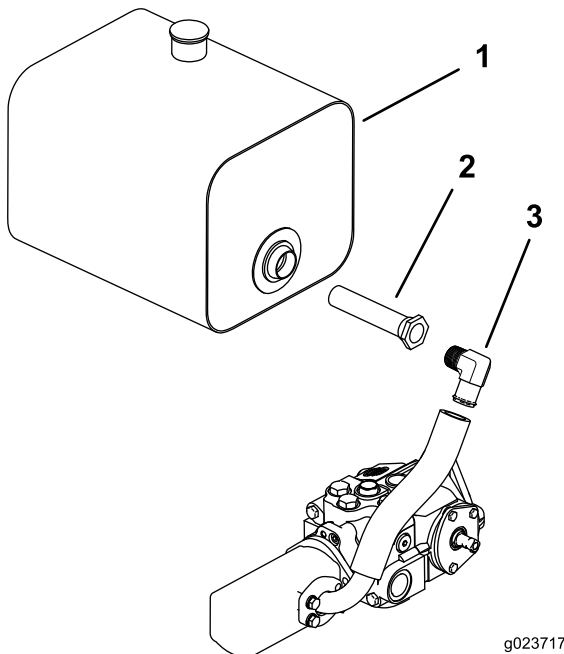

Figure 44
8. Disconnect the hose from the elbow and remove the elbow (Figure 44).